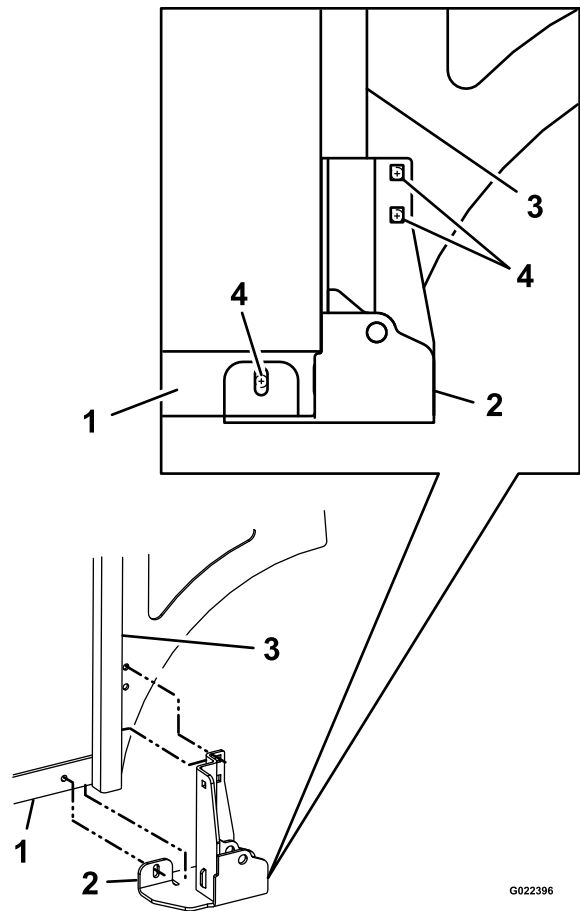

Figure 3
Note: If the holes do not exist in the frame, make sure that the bracket fits tight against the frame and mark the center locations, and drill 3 holes (8.4 mm or 11/32 inch diameter) as shown in Figure 3.
- Place the lower actuator-bracket assembly under the left rear frame and against the outer surface of the vertical leg (Figure 3).